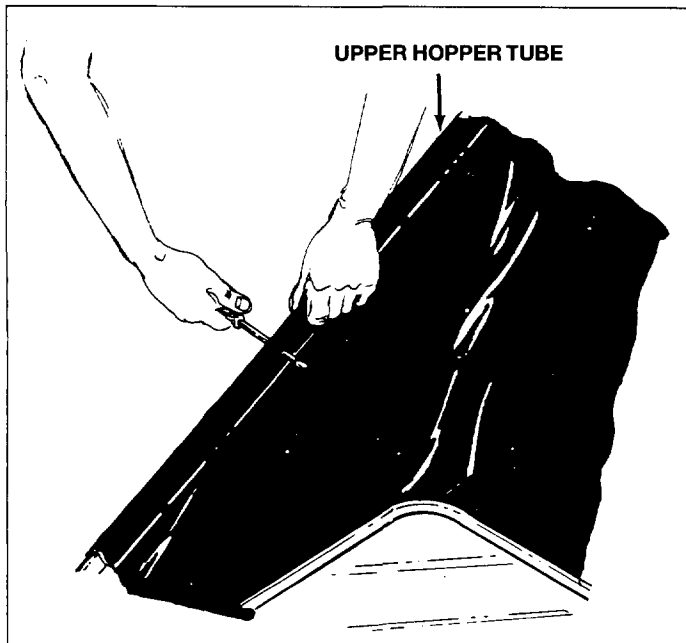

Fig. 22
- Locate hole along side of upper hopper tubes and pierce a hole through the bag aligned with the hole in the tube. See figure 22.